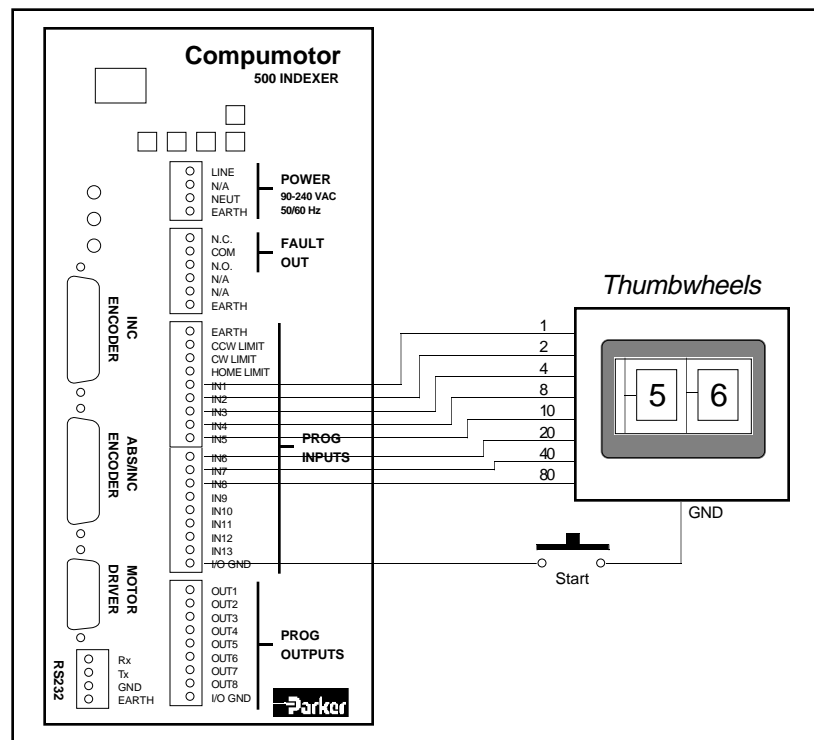

Figure 4-16. Model 500 Thumbwheel Installation
The following example shows how the Model 500 can be used to execute sequences with remote thumbwheels. In the example, only 3 sequences are entered. As many as 100 sequences may be defined and up to 99 may be executed using remote thumbwheels. Sequence 100 is automatically executed during power up or reset. Refer to the Reset (z) command in the **Model 500 Software Reference Guide**. Install your thumbwheels as shown in Figure 4-16.
- STEP ③** Connect the thumbwheels to the **IN1** - **IN8** inputs as shown in Figure 4-16.
- STEP ④** Reset the Model 500 Indexer. This will prepare the power up (Sequence #100) to be executed when you apply power to the indexer.